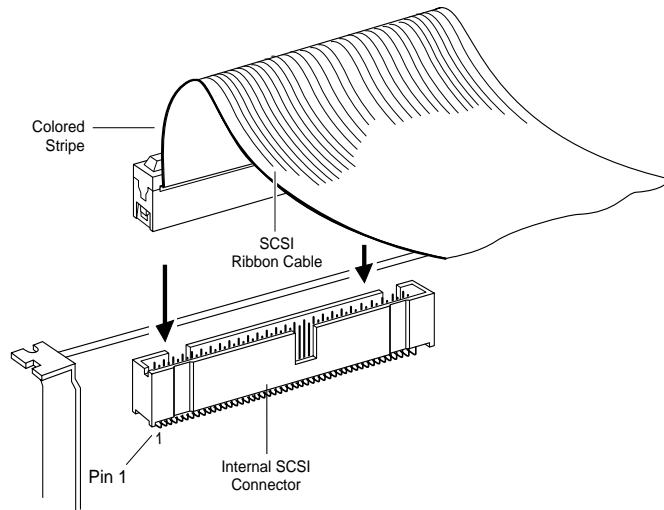

Figure 2-5. Internal SCSI Ribbon Cable to Host Adapter
- 1 Plug the SCSI connector at one end of the SCSI ribbon cable into one of the host adapter's internal SCSI connectors, as shown in Figure 2-5.